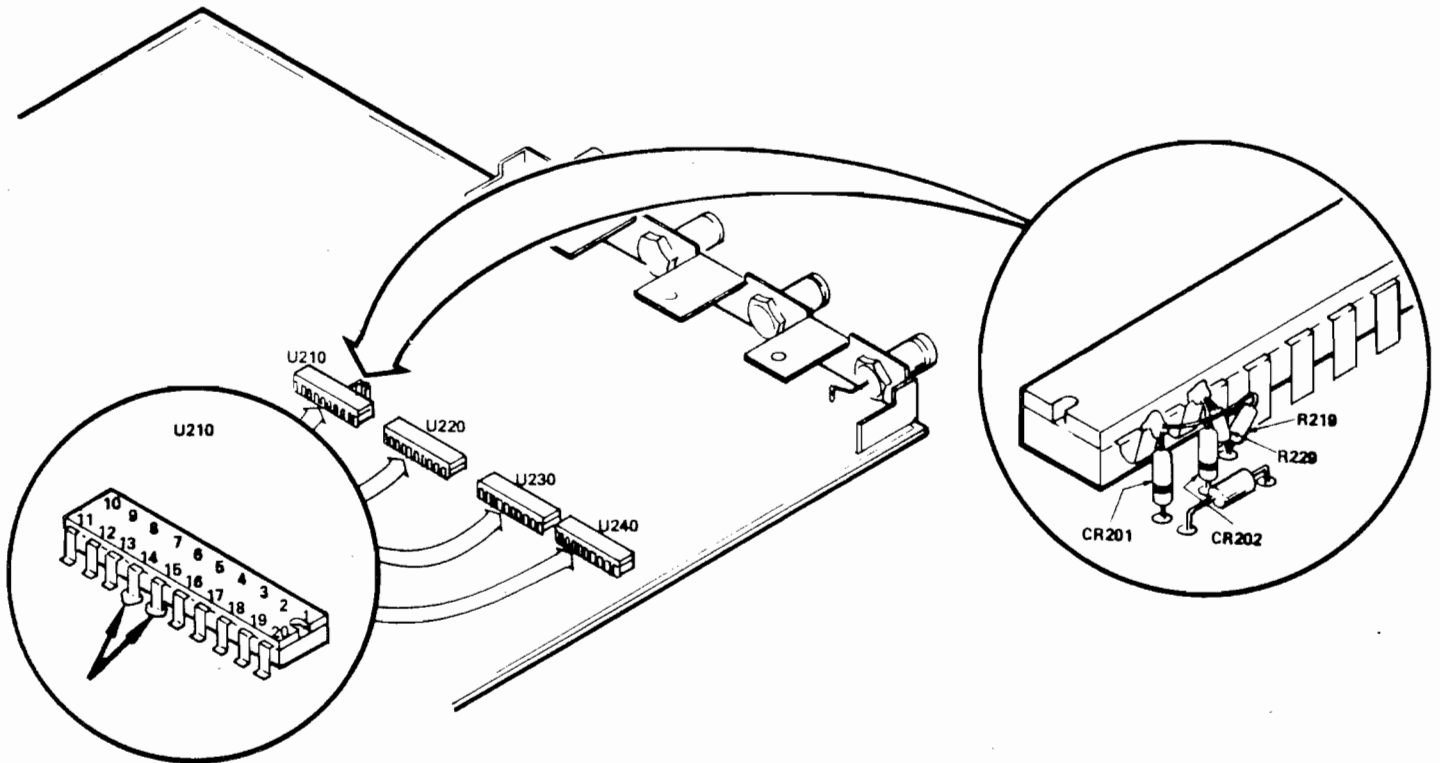

Fig. 1 - Quick Chip Replacement
- () 14. Refer to Fig. 1 and install the tepee assembly consisting of R219, R229, CR201, CR202 (may have been removed in step 10) as follows:
- () a. Solder the cathode leads of CR201 and CR202 to the two solder pads near U210, pins 1 and 2 as shown in Fig. 1.
- () b. Install one lead of R219 and R229 to the single solder pad shown in Fig. 1 (this is also the solder pad which accomodates U210, pin 3). Do not solder the leads to the pad.
- () d. Solder the free leads of CR201 and R219 to the lifted pin 1 of U210 as shown in Fig. 1.
- () e. Solder the free ends of CR202 and R229 to the lifted pin 2 of U210 as shown in Fig. 1.